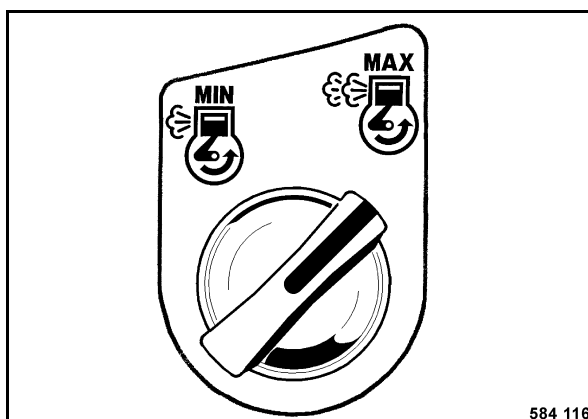

Fig. 54
- Turn the rotary momentary contact switch for engine speed (Fig. 54) clockwise to "MAX".